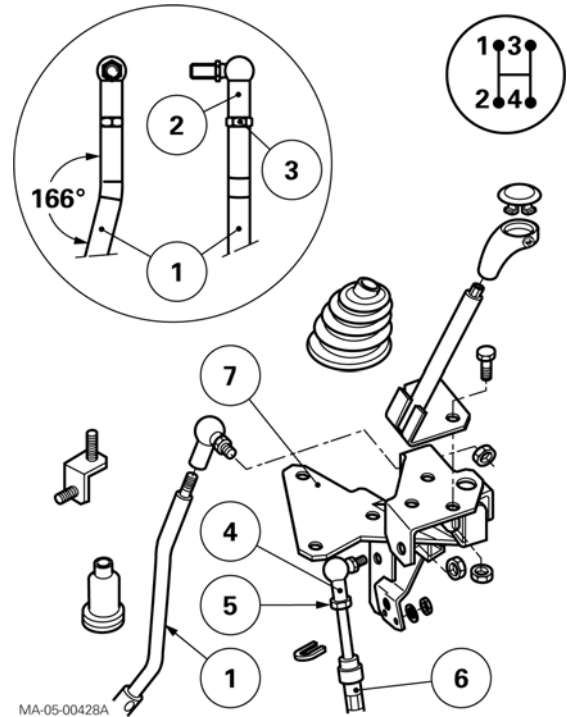

Fig. 11
Preparation (Fig. 11)
64. On the end of the rod (1) shaped with an angle of 166° , position the ball joint (2) as shown in Fig. 11. Tighten the nut (3).
65. Tighten the ball joint (4) up against the cable (6). Tighten the nut (5).
Assembly (Fig. 11)